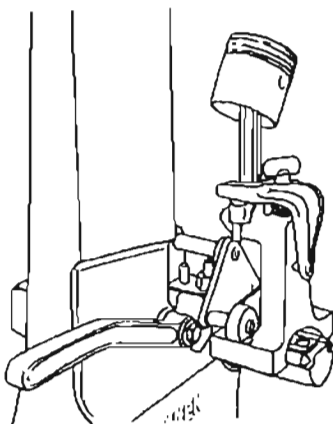

Fig. 14
- L. Midget Aligning Set is to be used with rods having bearings less than 1-3/4 inches in diameter. If cap is on rod, slip the rod under clamp A on the special mandrel for the Midget Aligning Set (See Fig. 14), and clamp with thumb screw B. Then place the whole assembly on the universal rod aligner TN-111, just as a rod would be clamped. If cap is not on rod, the rod can be placed on Midget Aligning Set after the set is mounted on the TN-111 aligner. Checking for bend, twist and offset is handled in exactly same manner as large rods. A special bending clamp is furnished with the Midget Aligning Set. Bending is done in vise in same manner as large rods.